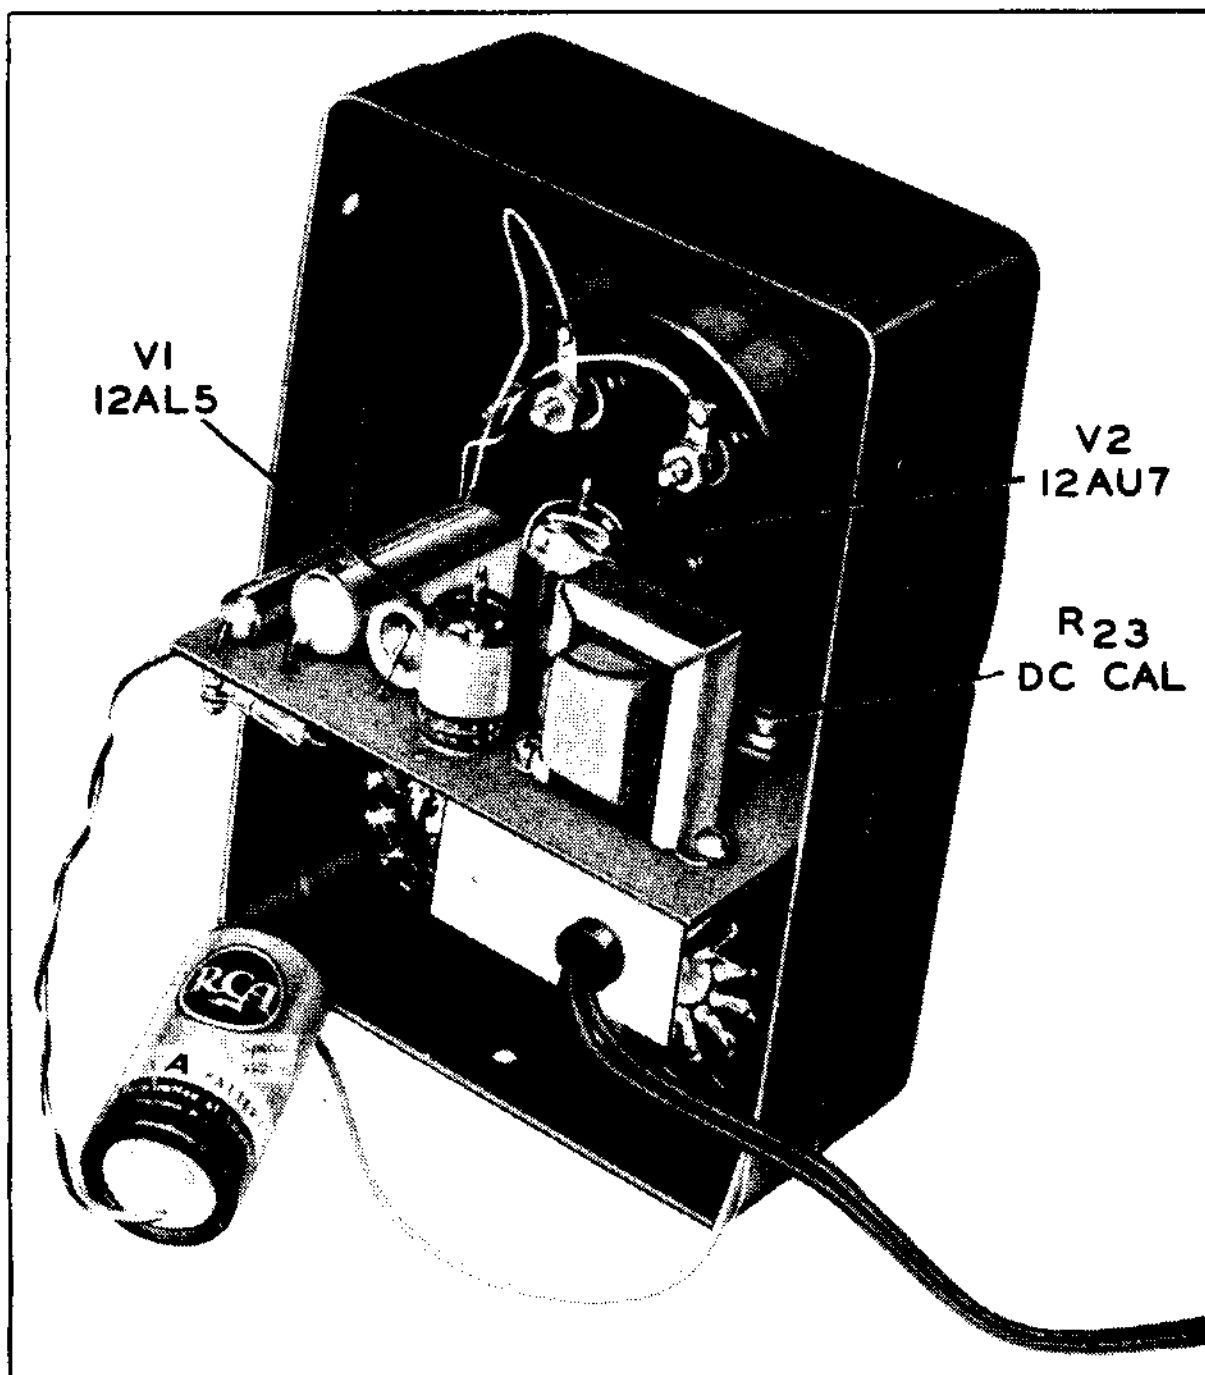

Figure 6. Location of calibration control
Tube locations, layout of chassis components, and locations of calibration controls are shown in Fig. 6. A schematic diagram of the WV-77A is shown in Fig. 5.
5. Adjust the "DC CAL" control (R-23) inside the case for a meter reading of exactly 58 volts (See Figure 6).